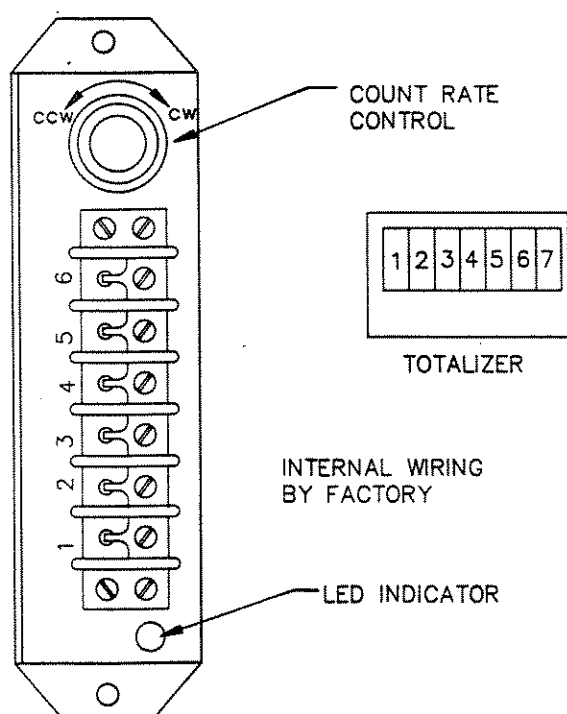

Figure 6-9
- Check the LED on the integrator. See Figure 6-9. If the LED is flashing approx. every 3 sec., the totalizer is defective and should be replaced.
voltage across the integrator terminals 4 and 6 with a DC voltmeter. See Figure 6-9. The input voltage should be 45 ± 5 Vdc. If the input voltage is correct, return the integrator to the factory for repair. If the input voltage is not correct, check the power supply. See Section 6.4.